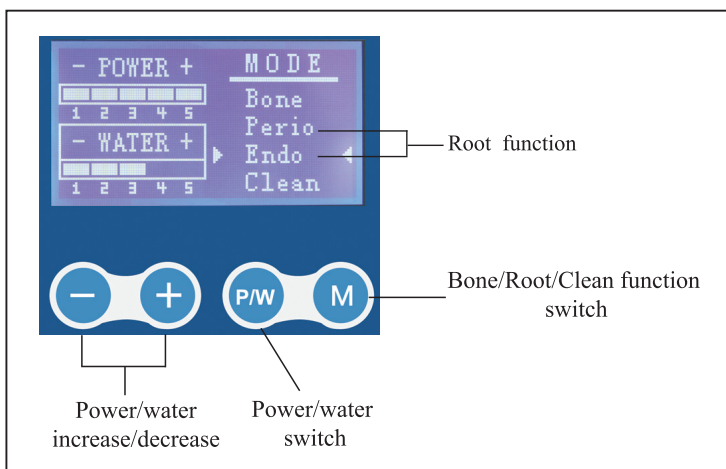

Fig.10
7.2.2 Root function (Fig.10)
7.5.6 Check the display to see the power level that has been set, if the type of power required differs from the level that has been set, use the key “+”/“-”(Fig.10) for selecting, depending on the type of function that has been set;